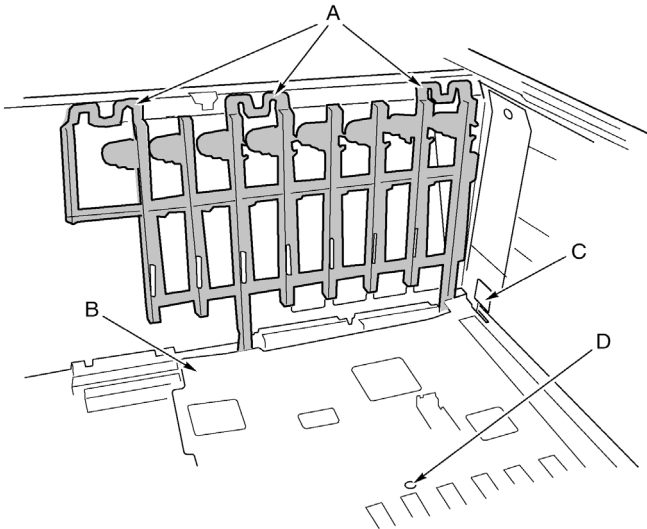

Figure 22 - Removing the front retention mechanism
- 7 A plastic retention mechanism for the PCI add-in cards is fastened to the front of the electronics bay by three clips (Figure 22, A). Release each clip by pressing down on the tab and remove the retention mechanism.
- a Unscrew the captive screw holding the overlay in place (Figure 22, D).
- b Near the middle of the mainboard, lift the edge of the overlay until it is clear of the connectors on the board (Figure 22, B).
- c Slide the overlay toward the front of the electronics bay and unhook it from the two tabs (Figure 22, C).
- a At the side of the electronics bay where the edge of the mainboard is inserted into the foam, place the two slots in the overlay over the hooked tabs (Figure 22, C on page 56).
- 5 Install the front retention mechanism for the PCI add-in cards on the front wall of the electronics bay (Figure 22 on page 56).